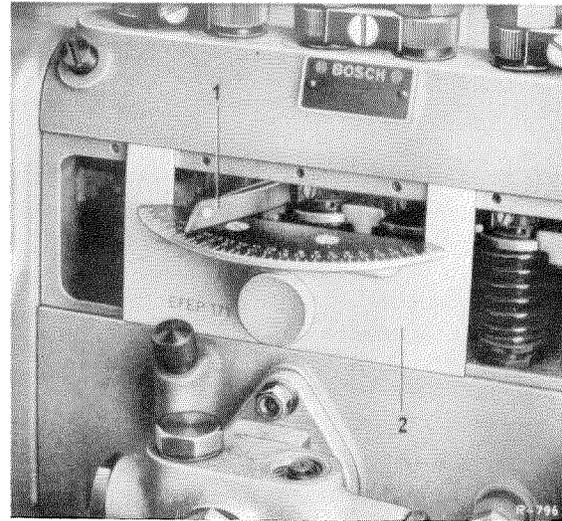

Figure 07-5/4
When checking **only** the governor and the full load discharge, the governor cover must not be removed if the fixture EFEP 171 (1) is used for the test (see Figure 07-5/4).